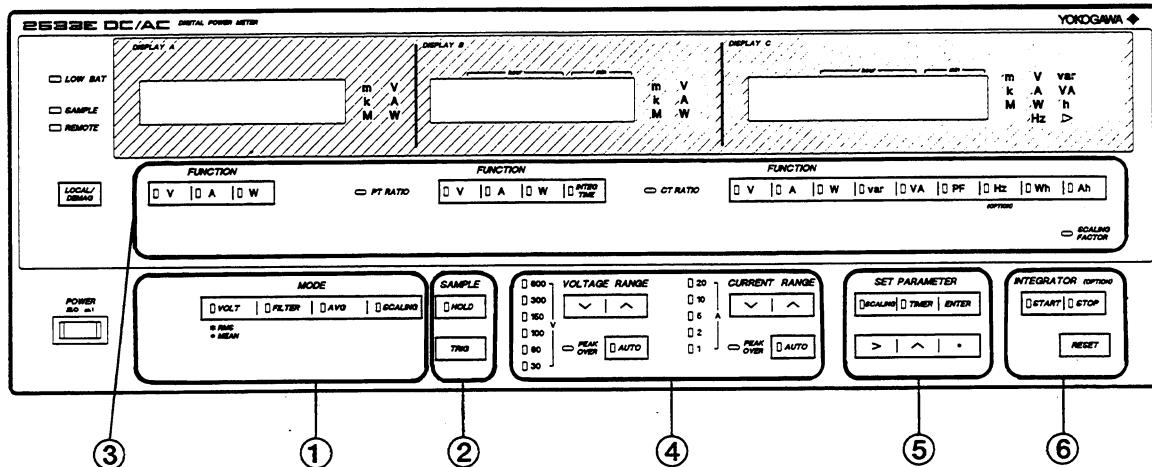

Figure 2-11.
Install the backup batteries according to section 2-2. Before any settings have been made with the front panel keys, the settings of the keys shown in Figure 2-11 when turning on power are at a default status given below. For a DC/AC meters, when the power turns on, its DC-CT core is demagnetized.
A measurement mode is selected by MODE keys shown by ① in Figure 2-11. The initial status of the keys are given in Table 2-5.
The sampling hold status is turned ON or OFF by SAMPLE keys indicated by ② in Figure 2-11. The initial settings are given in Table 2-6.
A display mode is selected by FUNCTION and ELEMENT keys corresponding to DISPLAY A, B and C shown by ③ in Figure 2-11. The initial settings of the keys are given in Table 2-7.
Each measurement range is selected by VOLTAGE RANGE (V) and CURRENT RANGE (A) keys shown by ④ in Figure 2-11. The initial settings are given in Table 2-8.
Press **[SCALING]** key, shown by ⑤ in Figure 2-11. The key lamp comes on and, at the same time, PT ratio, CT ratio and scaling factor initial set value are indicated on DISPLAY A, B and C, as shown in Table 2-9.
Press **[TIMER]** key, shown by ⑥ in Figure 2-11. The key lamp comes on, DISPLAY A and B disappear as shown in Table 2-10, and initial timer setting is indicated on DISPLAY C.
At the same time, INTEGRATOR Keys shown by ⑥ in Figure 2-11 give initial settings shown in Table 2-11.